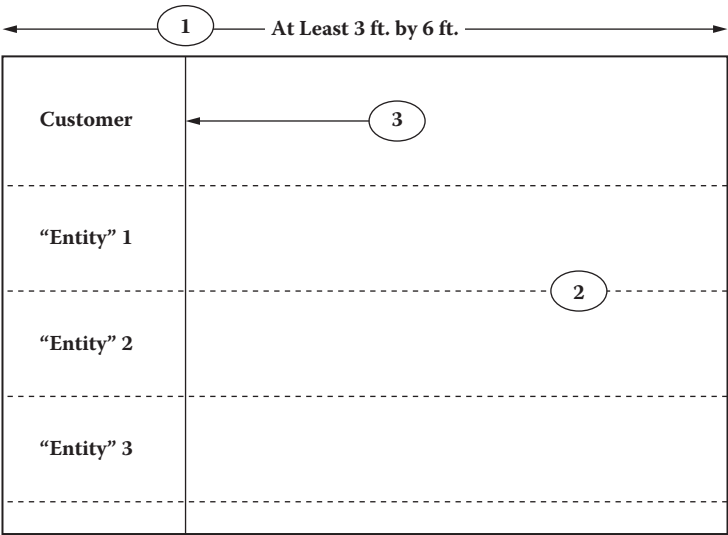

Figure 5.17 Workspace used to create a swimlane diagram showing swimlane boundaries with labels, and with the customer swimlane at the top.
1. Place a large (at least 3 ft. × 6 ft.) piece of paper on a wall or flat surface (Figure 5.17).